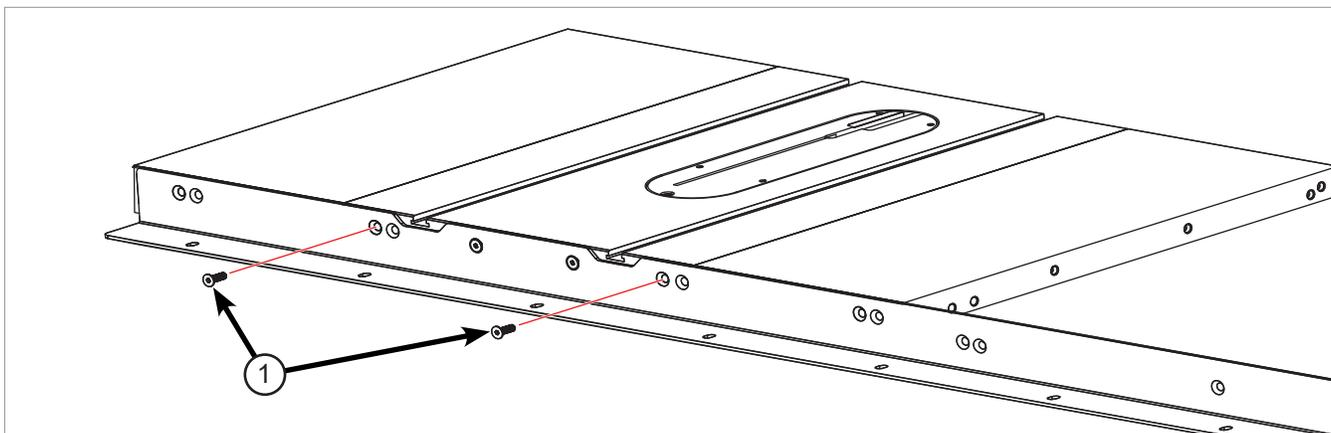

Fig. 4
2. Take two more M8 x 16 countersunk socket head bolts (1) and thread one into the hole to the right of the notches and the other into the hole to the left of the notches (See Fig. 4). Tighten the bolts with a 5 mm hex key.